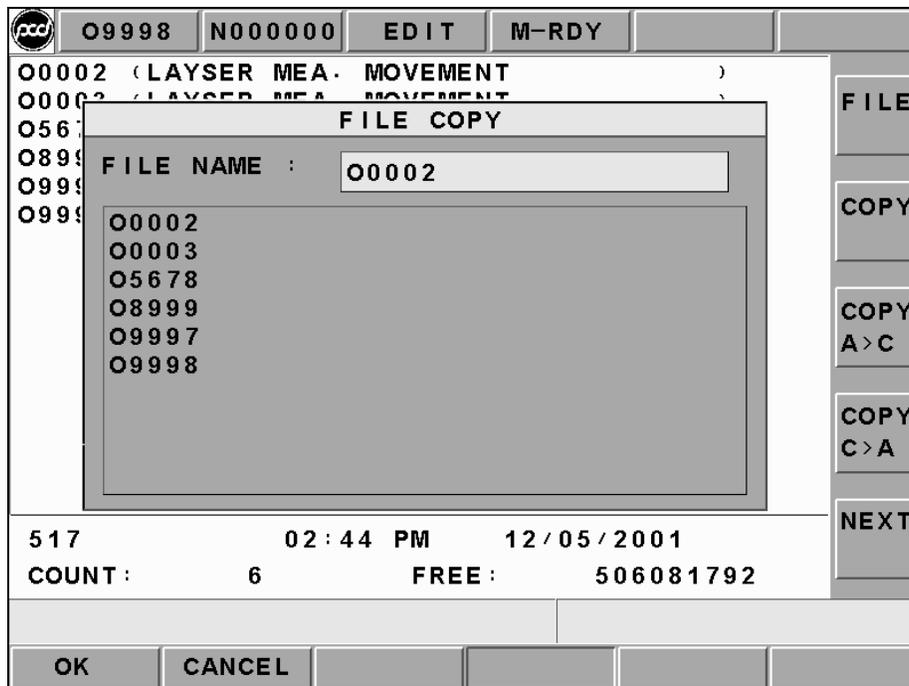

Figure 2.5-12 File Copy Selection Menu
1. Pressing (COPY A>C) in Edit mode and a file selection menu like Figure 2.5-12 will appear from the present working path. This will let users to select the wanted copy part program files from A drive.